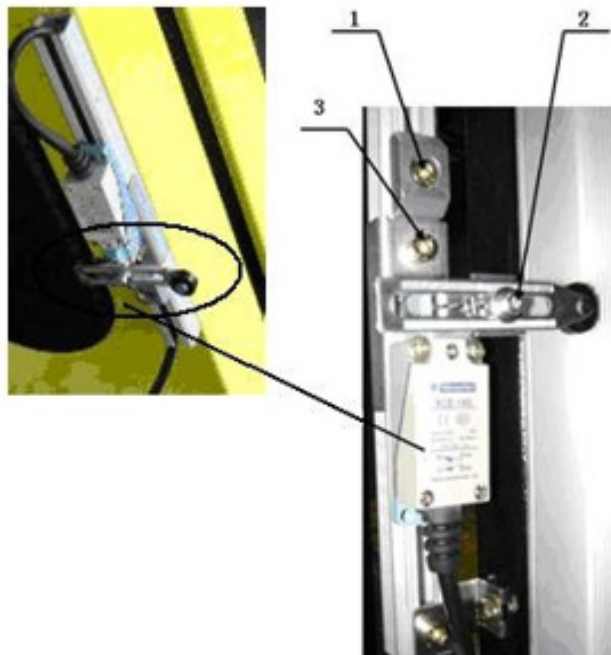

FIG3-1
- Loosen screw nuts (FIG3-1 POS3)
- Screw (FIG3-1 POS2) can adjust the left and right touch point of travel switch
- Screw (FIG3-1 POS1), on the limit block, used for locating when replacing the travel switch